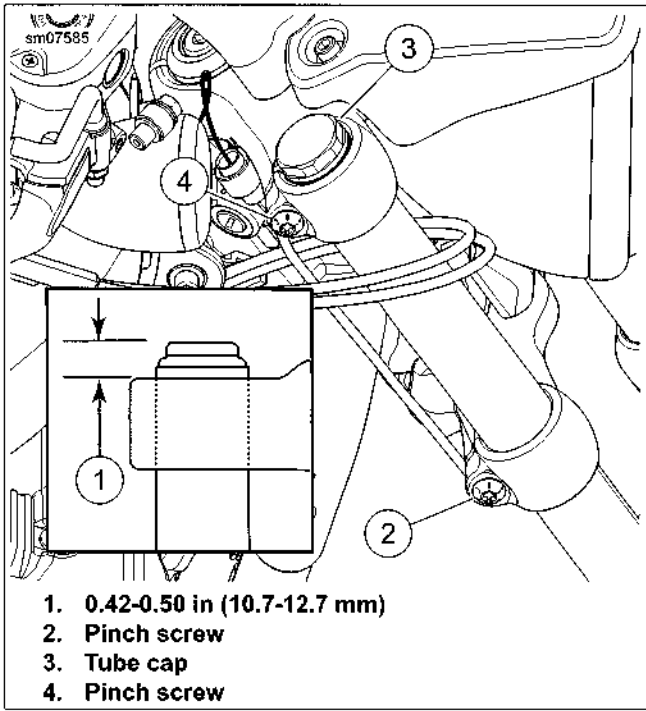
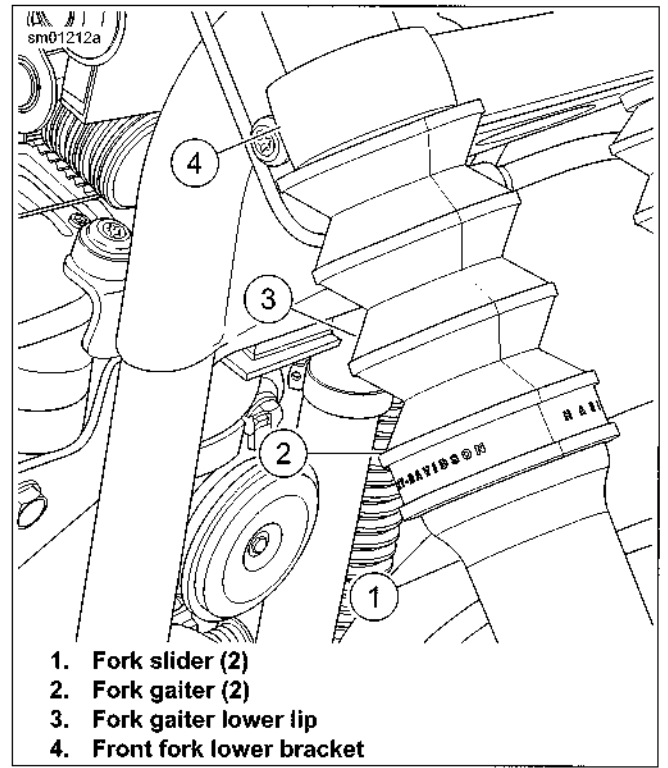

Figure 2-93. Tube Cap Extension
Figure 2-94. Fork Gaiter: XL 883N
9. Install internal circle clip (13) into groove in top of slider bore.
10. Install dust seal (12) at top of slider.
11. **All except XL 883N:** Install cover (11).
12. **XL 883N:** See Figure 2-94. Slide a fork gaiter (2) down each slider tube. Peet back lower lip (3) and slip over end of fork slider (1). Fit lower lip down over groove in upper end of fork slider. Slide upper end of fork gaiter down as far as possible.
1. See Figure 2-93. Insert each fork assembly through front fork lower and upper brackets. Position slider tubes to extend fork tube caps 0.42-0.50 in (10.7-12.7 mm) (1) above top surface of front fork upper bracket.
2. Tighten front fork lower bracket pinch screws (2) to 30-35 ft-lbs (40.7-47.5 Nm).
3. Now tighten slider tube caps (3) to 22-58 ft-lbs (29.9-78.7 Nm).
4. Tighten front fork upper bracket pinch screws (4) to 30-35 ft-lbs (40.7-47.5 Nm).
5. **XL 883N:** See Figure 2-94. Slide upper end of each fork gaiter (2) up until it contacts underside of front fork lower bracket (4).